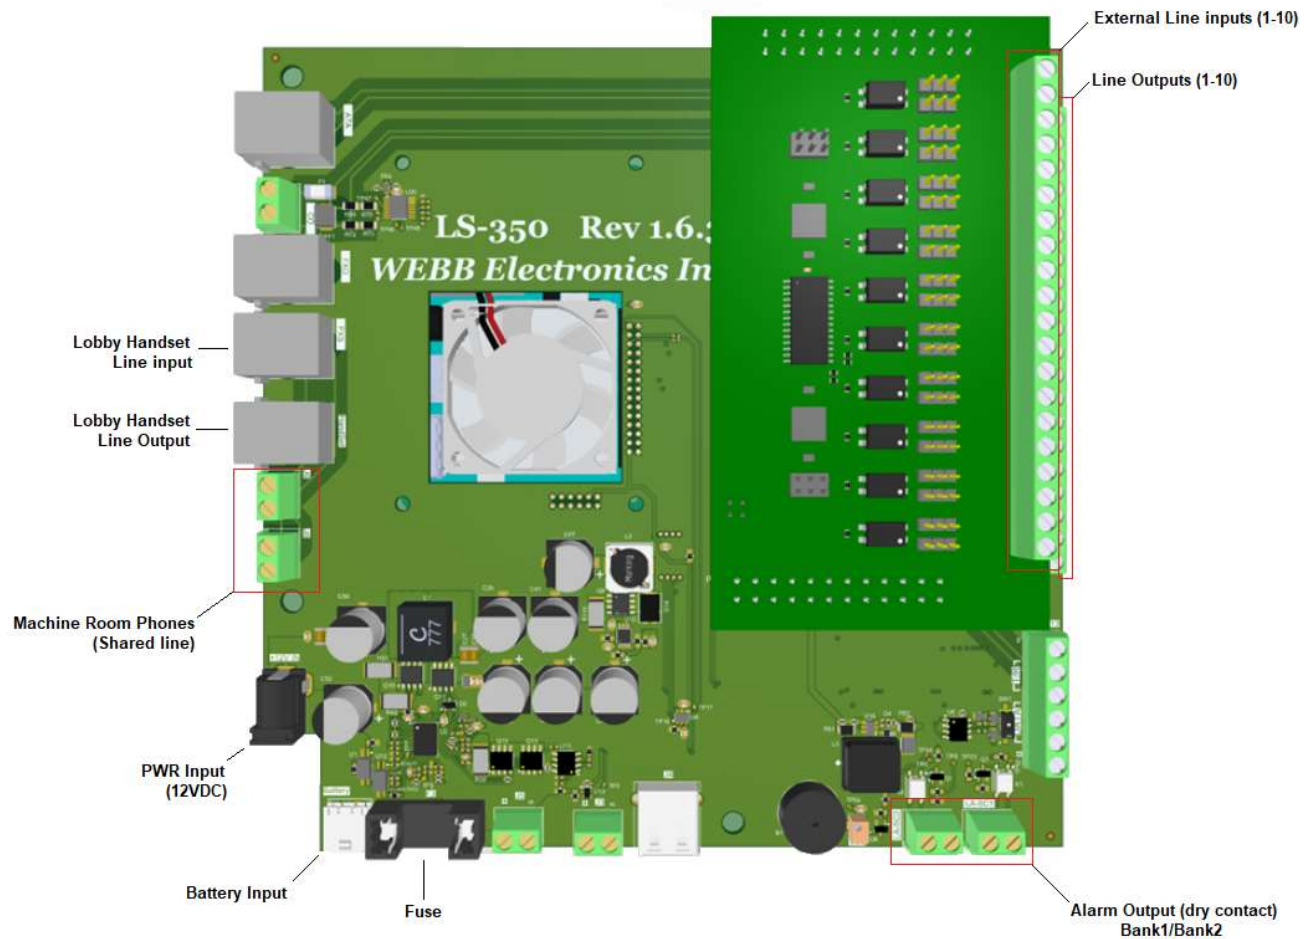

Figure 1 – LS-350 Connections
Note: See Figure 1 for reference.
- 3.2. To connect to external Alarm Panels or Hall stations, there are dry-contact outputs for up to two elevator banks on the bottom right. (See Figure 1)